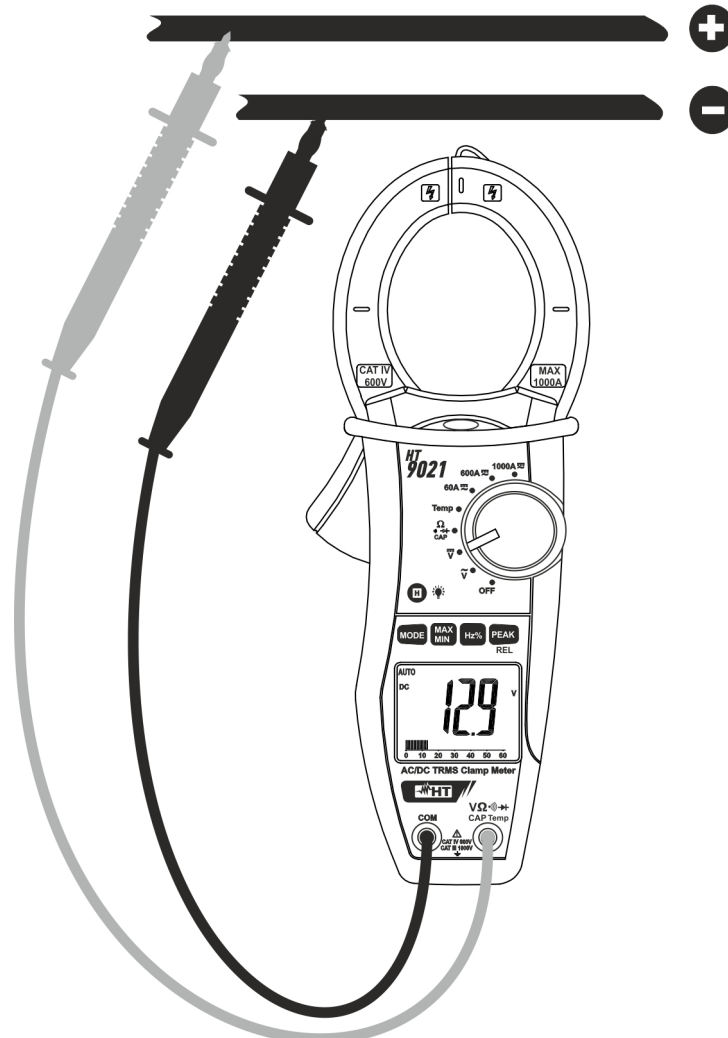

Fig. 4: Taking DC voltage measurements
2. Insert the red test lead plug into $V\Omega\overline{V}$ $\rightarrow$ CAP Temp jack and the black test lead plug into COM jack (Fig. 4)